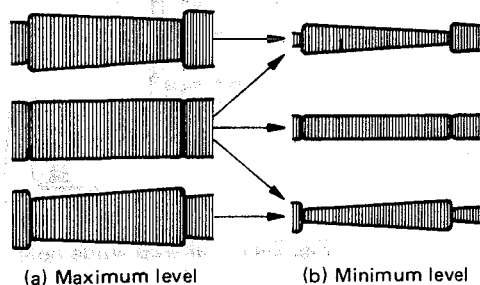

Fig. 2-43 Normal waveform examples
6. Turn the Tracking control from end to end. The waveform variation should be nearly parallel as shown in Fig. 2-43 and 2-44